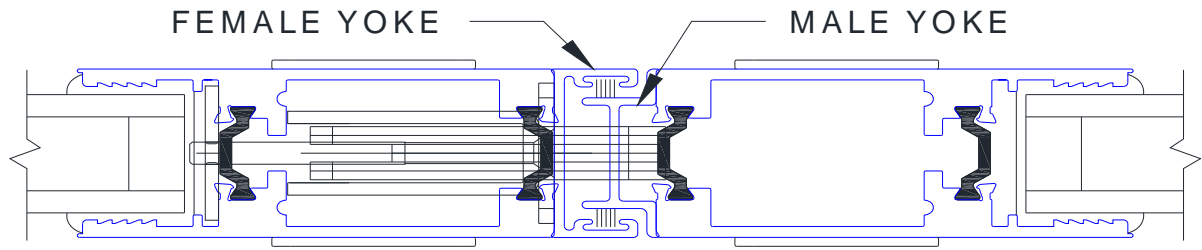

Figure 7:
1. Install male and female yokes with #8 x 3/4" screws, 6" from ends, maximum 18" on centers (Figure 7).